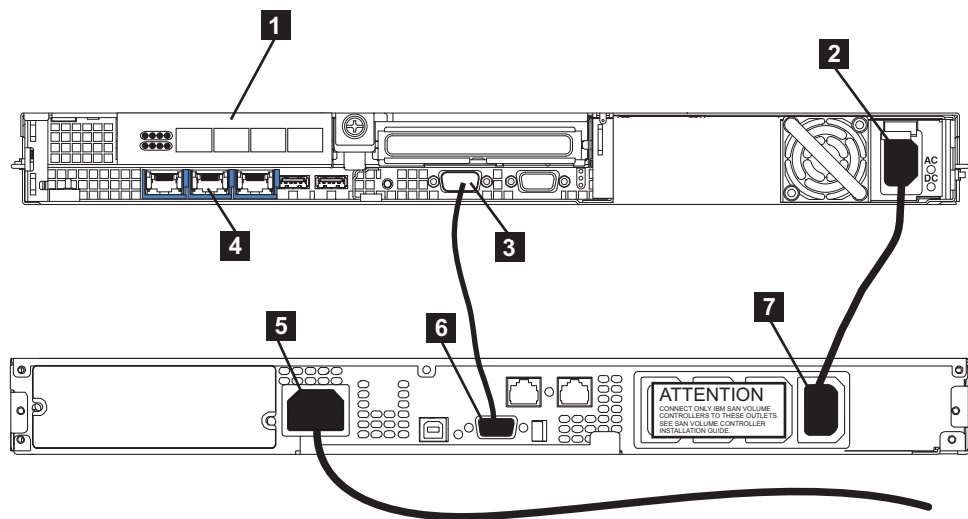

Figure 23. Connecting the SAN Volume Controller 2145-8G4 power cable to the 2145 UPS-1U
1. At the back of the SAN Volume Controller 2145-8G4, plug the power cable of the combined power and serial cable into the power connector **2**, as shown in Figure 23.